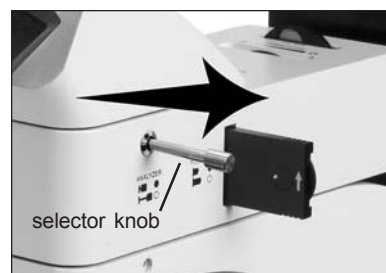

Figure 38
27. Remove the transmitted polarizer filter from the collector if applicable. Pull the Analyzer selector knob fully out (figure 38).